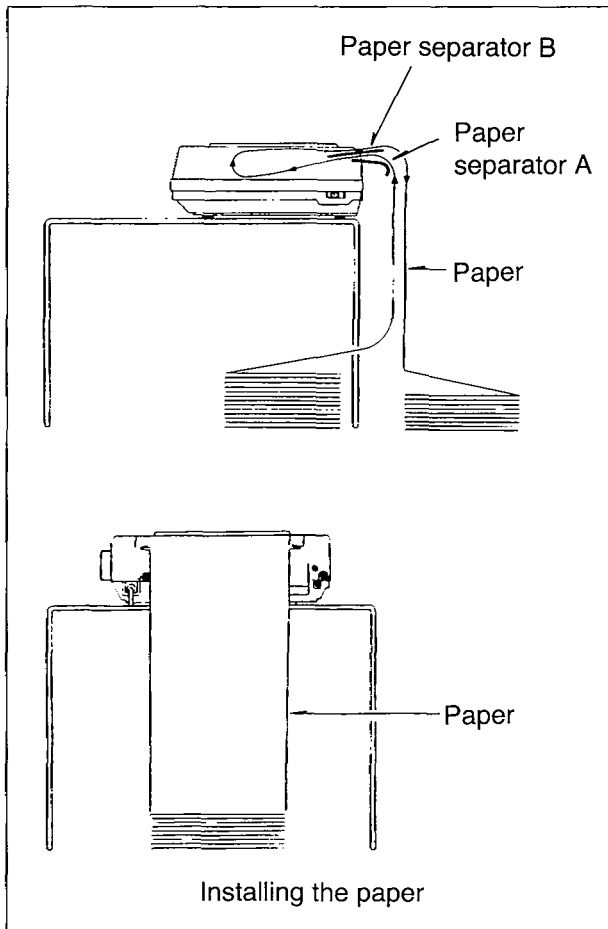

Figure 2.7 Stacking the Paper
- To insure smooth paper flow when using fanfold paper, be sure the paper is not stacked higher than the paper separators. By feeding the paper as shown in Figure 2.7, the weight of the paper will provide reverse tension. The paper should be directly behind the printer and not off to one side.